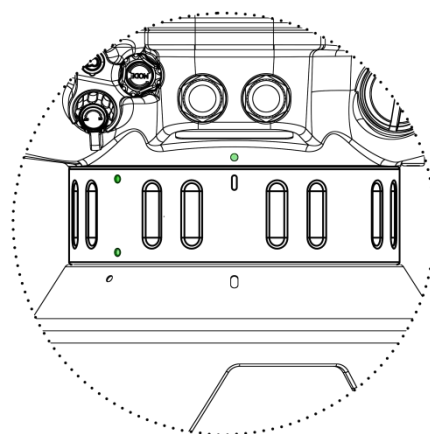

Figure 1
**02** Rotate the extension ring counterclockwise until the bar sign on the extension ring aligns to the dot sign of the housing. (As shown in Figure 1)